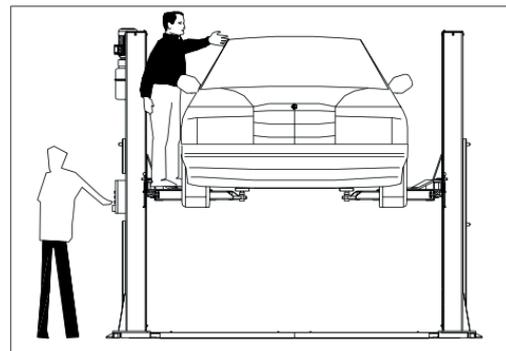

Fig.10
**NE MONTEZ JAMAIS DANS LE VÉHICULE ET/OU NE METTEZ JAMAIS LE MOTEUR EN MARCHÉ PENDANT LA MONTÉE DE L'ÉLEVATEUR (Fig. 10)**